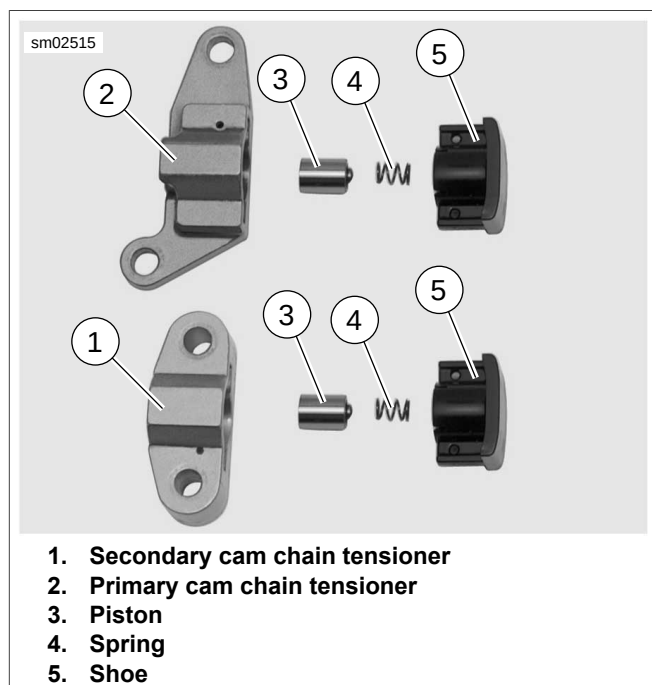

Figure 3-100. Cam Chain Tensioner Assemblies
- b. See Figure 3-100. Be sure primary and secondary cam chain tensioners are assembled as shown. If assembled incorrectly, tensioners will not function properly.